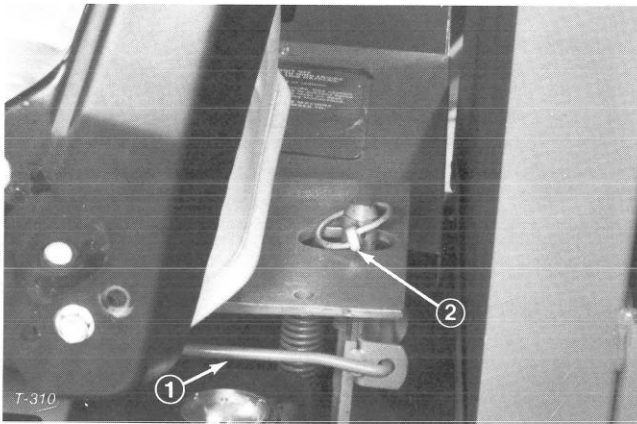

Figure 12
8. Disengage seat support rod and slide it into retaining clips (Fig. 12). Pivot seat down and push lynch pin through seat latch stud. Flip wire end of pin over latch stud (Fig. 12).